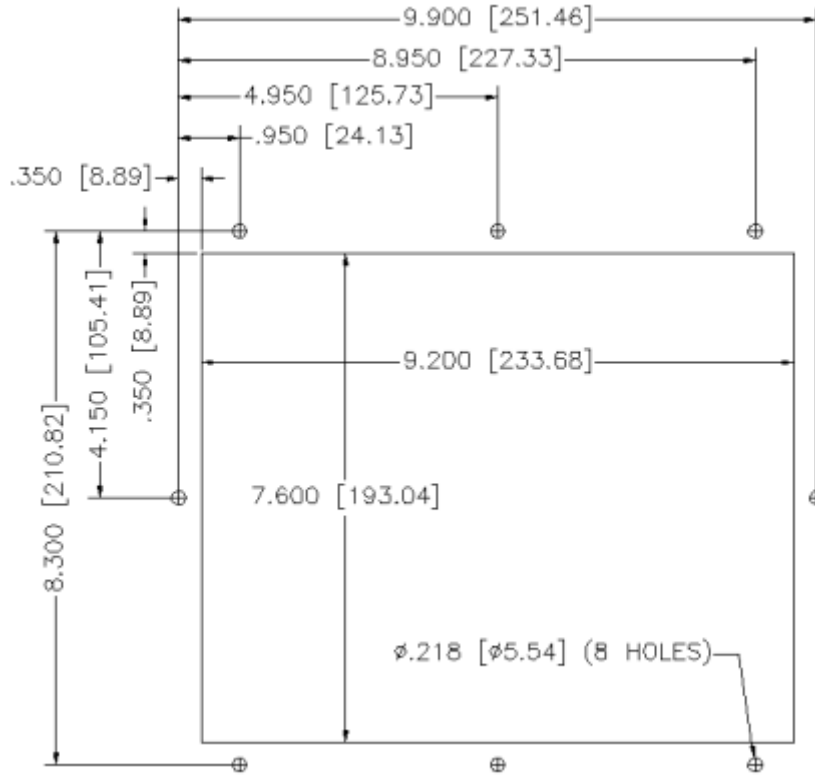

Figure 2-1. 3308T System Cutout Dimensions
2. Create a cutout in the enclosure (see Figure 2-1 through Figure 2-5 in *System Cutout Dimensions*).